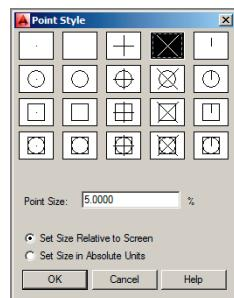

FIGURE 2.20 Changing the point style so that points are more visible
3. You will use preexisting points as guides in drawing the burners. However, the points are difficult to see right now because they are represented as single pixels. Expand the Utilities panel on the Home tab and select Point Style. In the Point Style dialog box, select the X icon and click OK (see Figure 2.20).